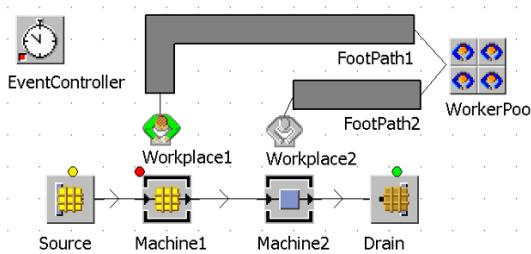

Fig. 9.13 Worker in action
Activate the Failure Importer. Turn off inheritance for the services list (click on the green box next to the button Services for Repairing). Click the button “SERVICES FOR REPAIRING.” Enter the service name (“repair”) and the number of workers (1). Select the broker. Confirm your changes and run the simulation for a while. If a failure occurs, the worker moves from the Workerpool to the machine and remains there until that failure is removed. After that, he moves back into the Workerpool (Fig. 9.13).